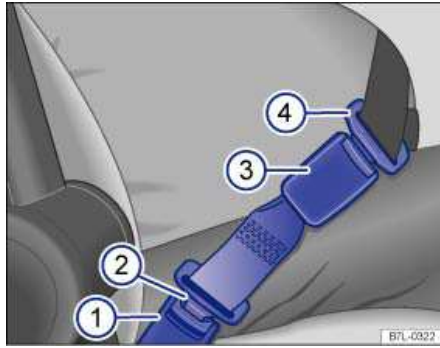

Fig. 55 A safety belt extender properly attached to the factory-installed safety belt.
Key to fig. 55:
- Insert the buckle tongue on the safety belt extender ⇒ fig. 55 \(2\) into the vehicle belt buckle for the seat where the safety belt extender is being used \(1\).